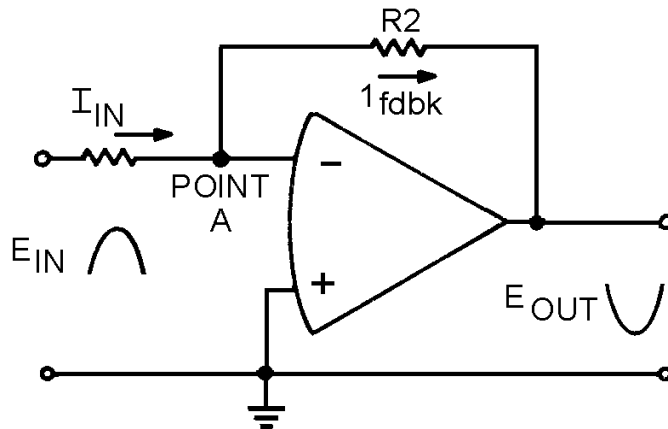

Figure 3-15.—Current flow in the operational circuit.
Given these conditions, the characteristics of this circuit are determined almost entirely by the values of R1 and R2. Figure 3-15 should help show how the values of R1 and R2 determine the circuit characteristics.
- Q-24. *In a circuit such as that shown in figure 3-15, if R_1 has a value of 100 ohms and R_2 has a value of 1 kilohm and the input signal is at a value of + 5 millivolts, what is the value of the output signal?*